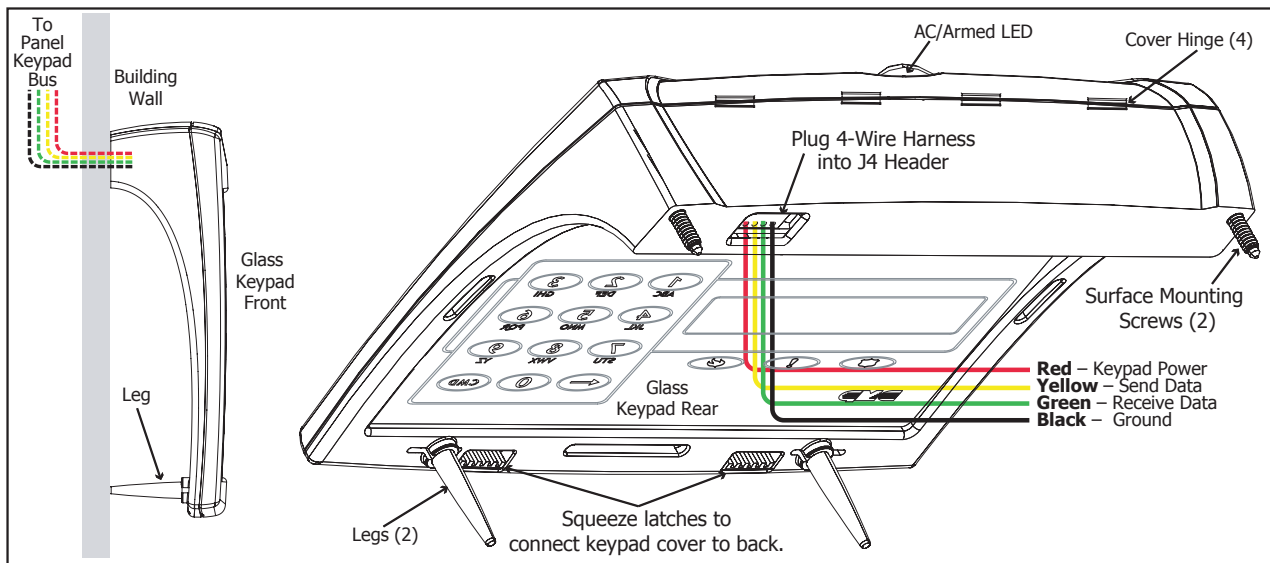

Figure 3: Keypad Side Mounting and Back Showing Wiring Harness Assignments
6. Gently plug the 4-wire harness connector onto the 4-pin header through the opening in the back of the keypad. See Figure 3.
2. Lower the cover and gently snap the two bottom latches and two internal side latches into place by squeezing the base and cover together to reduce the stress on the legs. (See Figure 3)
Figure 3 shows wiring harness mounting location and wiring assignments. Observe wire colors when connecting the Red, Yellow, Green, and Black wires to the keypad bus. When wiring directly to the panel terminals, connect Red to panel terminal 7, Yellow to terminal 8, Green to 9, and Black to panel terminal 10.